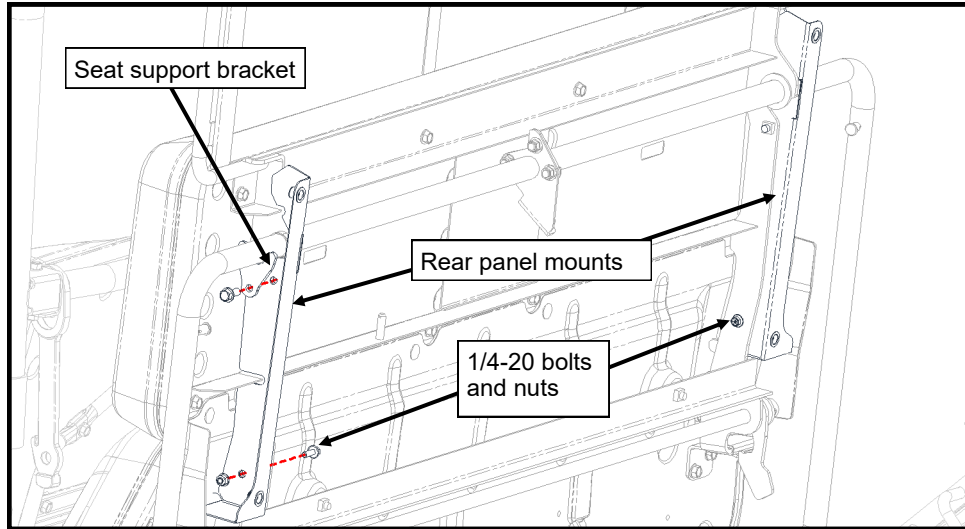

Figure 3.2: Lower Rear Panel Mounts
- 3.2 Remove the bracket holding the seat support rod to the seat back (Figure 3.2) and install the Rear Panel Mount between the bracket and the seat frame. Reinstall the seat support bracket with the original fastener. Align the lower hole of the mount to the hole in the seat frame. Then, install one flanged hex 1/4-20 x 3/4" bolt and flanged nut. Repeat for the opposite side.